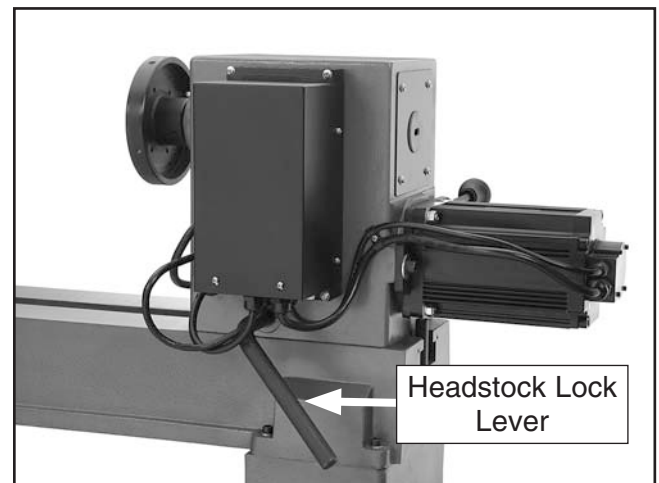

Figure 18. Headstock lock lever location.
2. Loosen the headstock lock lever (see **Figure 18**).